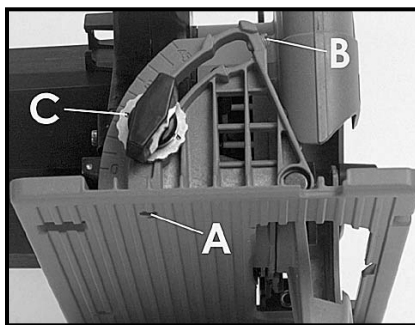
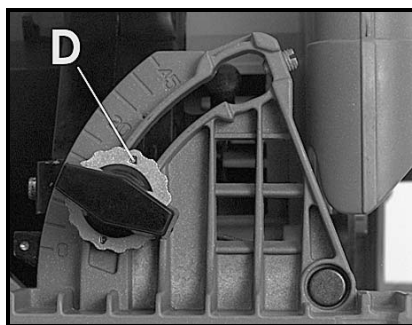

Fig. 6
Fig. 6A
The saw is equipped with adjustable positive stops at both 90° (A) Fig. 6, and 45° (B) Fig. 6. It is recommended that the accuracy of these stops be checked periodically and adjustments be made as necessary. These procedures are explained fully in the following sections of this manual.
This saw can be adjusted for bevel cuts of up to 3° beyond the positive stop at either the 45° or the 90° position. In normal operation the bevel stop sleeve (C) Fig. 6, is aligned as shown in Fig. 6. To adjust the saw for a bevel cut beyond the normal 45° to 90° range:
4. Pull out on the bevel stop sleeve (C) Fig. 6. Rotate sleeve to the position shown in Fig. 6A and push sleeve back in.
**NOTE:** The bevel stop sleeve must be returned to the normal position (see Fig. 6), before the saw can be adjusted for a bevel cut of between 45° and 90°.
2. Set bevel stop sleeve to normal position (see Fig. 6).
5. If adjustment is necessary, loosen bevel adjustment knob, keeping bevel stop sleeve in contact with stop screw, turn stop screw (see Fig. 6) until squareness is obtained.
5. If adjustment is necessary, loosen bevel adjustment knob and turn stop screw (see Fig. 6) until angle is correct.